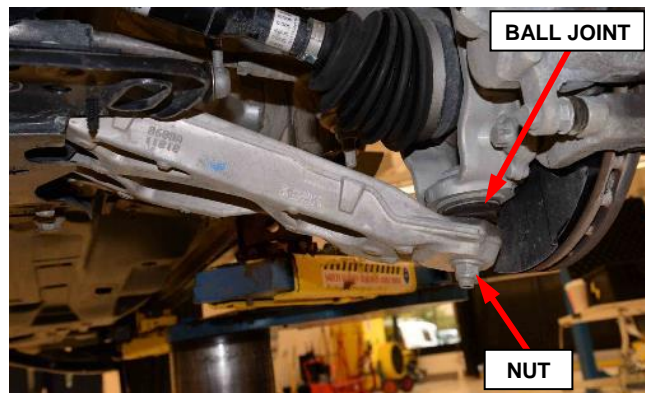

Figure 23 – Ball Joint
28. Remove and **DISCARD** the lower ball joint nut (Figure 23).